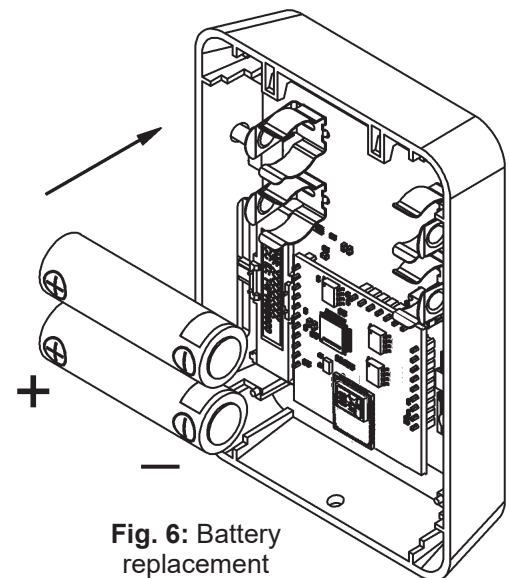

Fig. 6: Battery replacement
2. Remove the used batteries from their holders and discard in an environmentally safe manner. Replace with new batteries in the correct orientation (Fig 6).